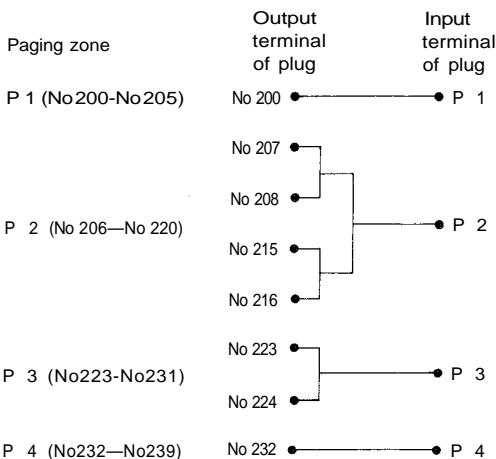

Fig. 5 Connection of Station Paging Assignment Plug
- (2) <For the LM-62B/62C/65/65C units>
- JP105 ~ JP805 Refer to Table 4, Fig. 5 and 8.